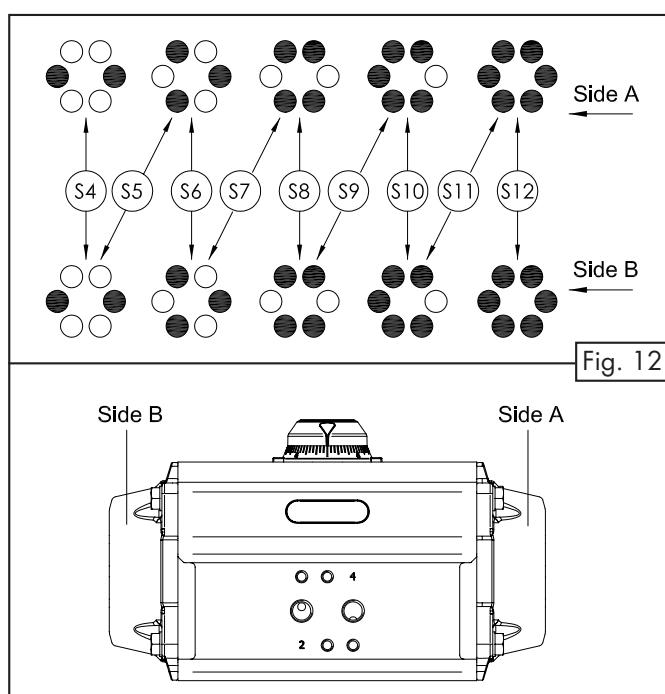
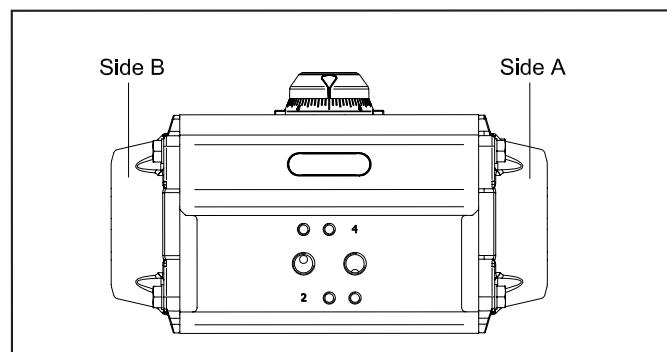

Fig. 12
Fig. 13
C) End cap (Part N° 30) assembly, figures 12, 13 and 14:
- For spring return actuators, insert the springs in each end cap according to the desired configuration, as shown in figure 12 and related tables. For models AT101U→AT801U insert spring cartridges as shown in figure 13.